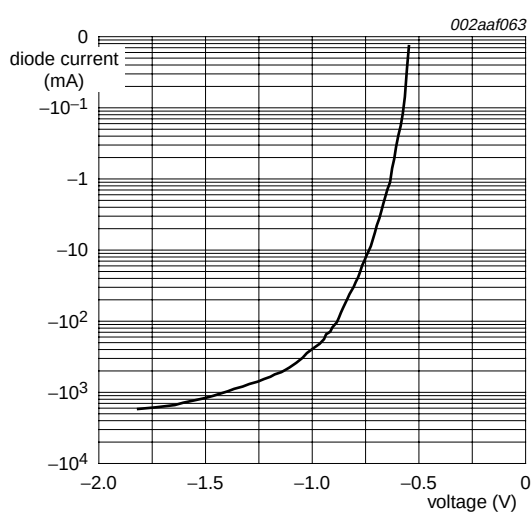

Fig 21. Diode characteristic curve
Figure 21 shows the measured characteristic for one of those diodes inside P82B96. The plot was made using a curve tracer that applies 50 Hz mains voltage via a series resistor, so the pulse durations are long duration (several milliseconds) and are reaching peaks of over 2 A when more than -1.5 V is applied. The IC becomes very hot during this testing but it was not damaged. Whenever there is current flowing in any of these diodes it is possible that there can be faulty operation of any IC. For that reason we put a specification on the negative voltage that is allowed to be applied. It is selected so that, at the highest allowed junction temperature, there will be a big safety factor that guarantees the diode will not conduct and then we do not need to make any 100 % production tests to guarantee the published specification.
For the P82B96, in specific applications, there will always be transient overshoot and ringing on the wiring that can cause these diodes to conduct. Therefore we designed the IC to withstand those transients and as a part of the qualification procedure we made tests, using DC currents to more than twice the normal bus sink currents, to be sure that the IC was not affected by those currents. For example, the Tx/Ty and Rx/Ry pins were tested to at least -80 mA which, from Figure 21, would be more than -0.8 V. The correct functioning of the P82B96 is not affected even by those large currents. The Absolute Maximum (DC) ratings are not intended to apply to transients but to steady state conditions. This explains why you will never see any problems in practice even if, during transients, more than -0.3 V is applied to the bus interface pins of P82B96.
Figure 21 "Diode characteristic curve" also explains how the general Absolute Maximum DC specification was selected. The current at 25 °C is near zero at -0.55 V. The P82B96 is allowed to operate with +125 °C junction and that would cause this diode voltage to decrease by $100 \times 2 \text{ mV} = 200 \text{ mV}$. So for zero current we need to specify -0.35 V and we publish -0.3 V just to have some extra margin.